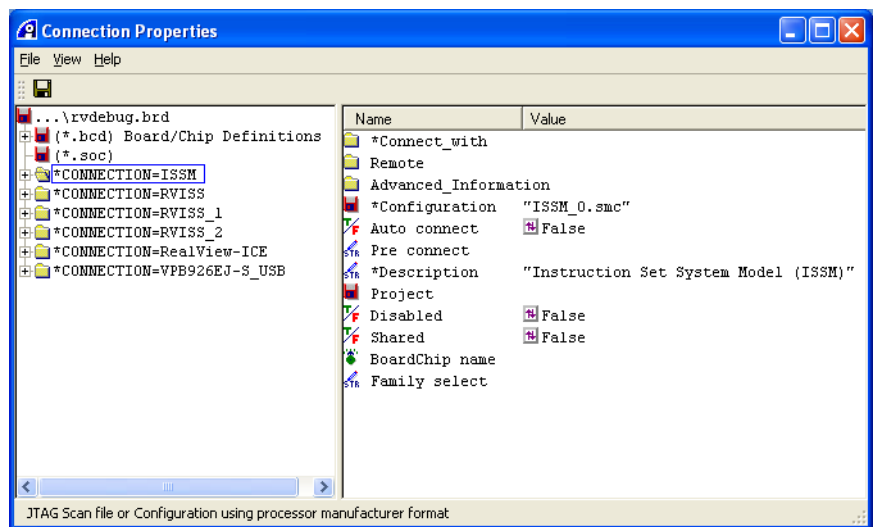

Figure 4-10 Connection Properties window
1. Select **Target → Connection Properties...** from the Code window main menu to open the Connection Properties window. Figure 4-10 shows an example: